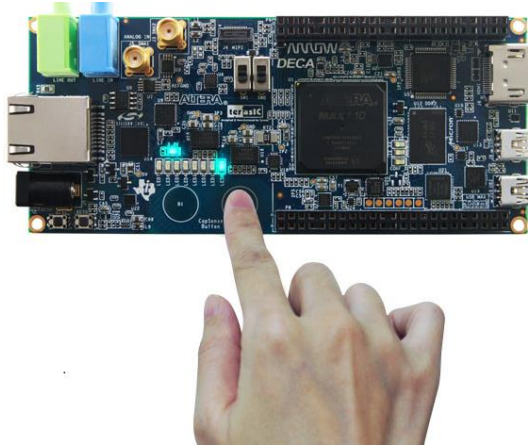

Figure 6-4 Press the CapSense button
- Press the CapSense button will light up corresponding LED, as shown in **Figure 6-4** If B0 or B1 is pressed, LED[0] or LED[1] will lit, respectively. If both B0 and B1 are pressed, both LED[0] and LED[1] will lit simultaneously.